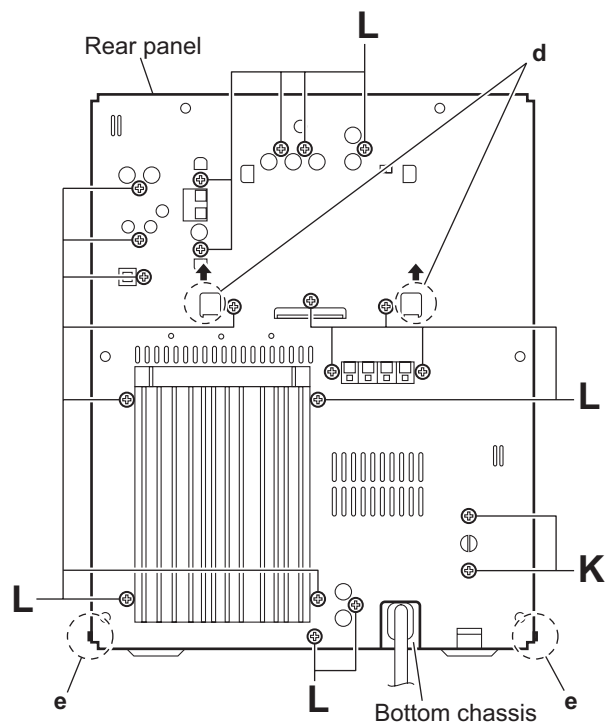

Fig.11
- (3) Remove the two screws **K** and nineteen screws **L** attaching the rear panel. (See Fig.11.)
- (4) From the both sides of the main body, release the sections **d** of the center chassis in the direction of the arrow and release the joints **e** attaching the rear panel to the bottom chassis. (See Fig. 11.)